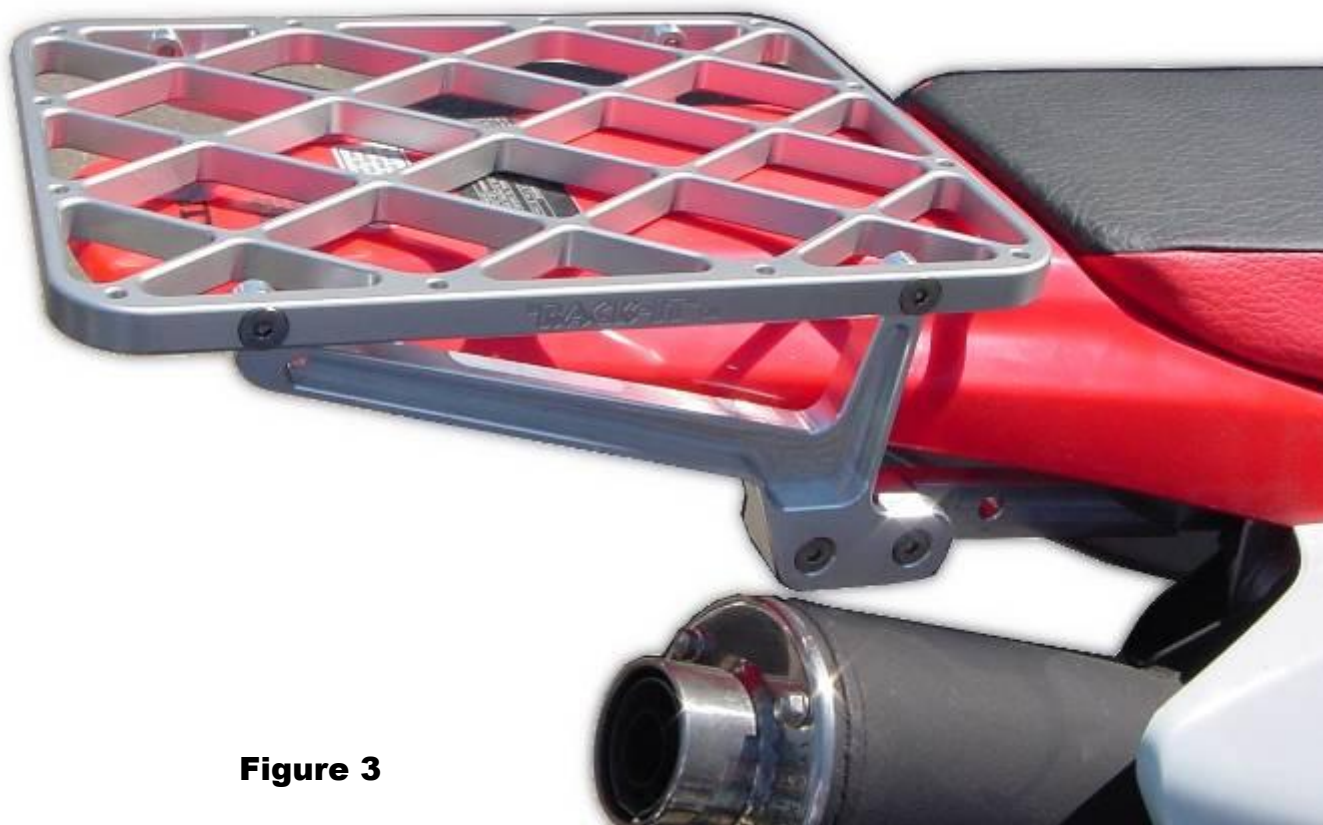

Figure 3
11. Finished installation should like Figure 3.